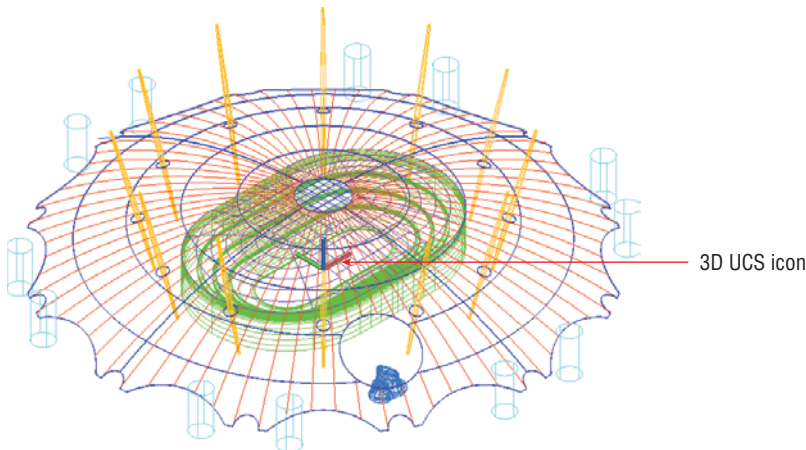

FIGURE 16.3 Wireframe visual style
4. Select the Wireframe icon. The UCS icon displays a colorful axis tripod in this visual style (see Figure 16.3).